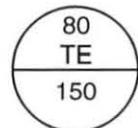

Figure 78. Instrument Tag
4. Identify the loop and area the device is in using the instrument tag in figure 78.